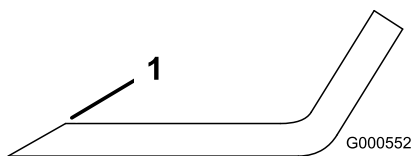

Figure 55
1. Use a file to sharpen the cutting edge at both ends of the blade (Figure 55).
**Note:** If the blade is not balanced, file some metal off the end of the sail area only (Figure 55).